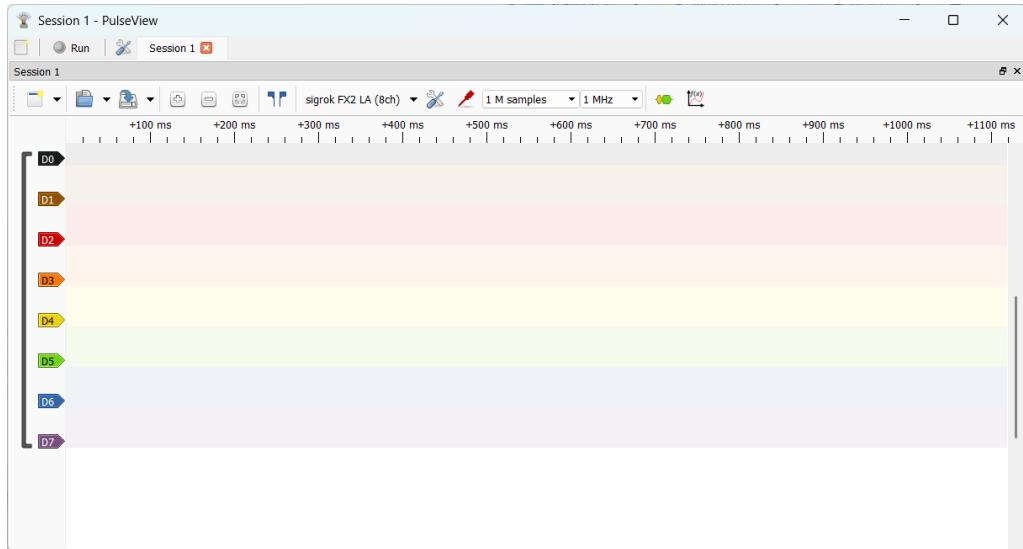

Figure 6: The initial window of PulseView
- **Figure 6** shows the initial **PulseView** window, which successfully detects and connects to the USB logic analyzer (**Sigrok FX2 LA**).